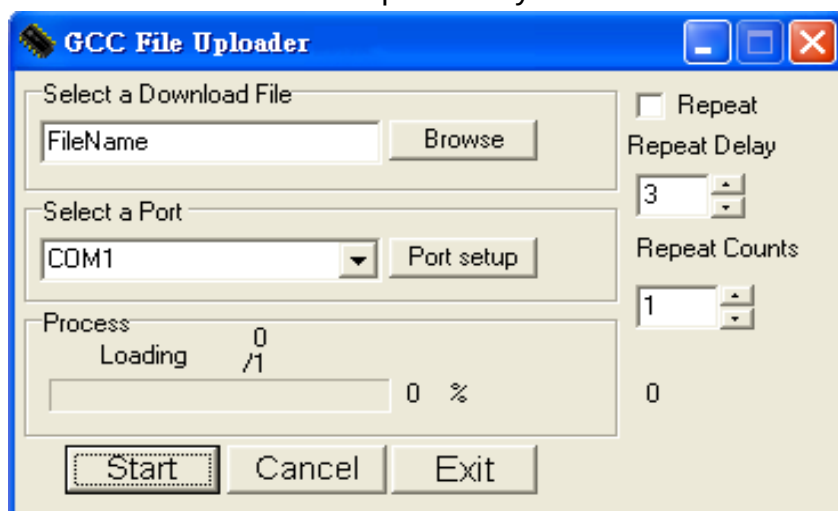

Figure 3-11
- ✓ Launch GCC File Uploader by double-click on the icon (Figure 3-11).